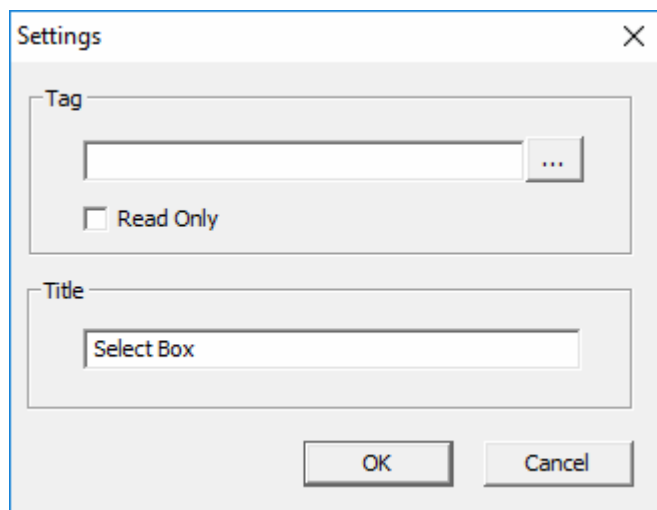

Figure 3-50 Check Box settings
- Drawing: Click in the Drawing area after selecting the icon, and a checkbox will be drawn. Select the check box and change its size by stretching it. The "Settings" dialog box shown in Figure 3-50 will pop up after double-clicking the check box. User can change the title of the check box in the title box. The check box will be unable to operate in supervision when select "Read Only".